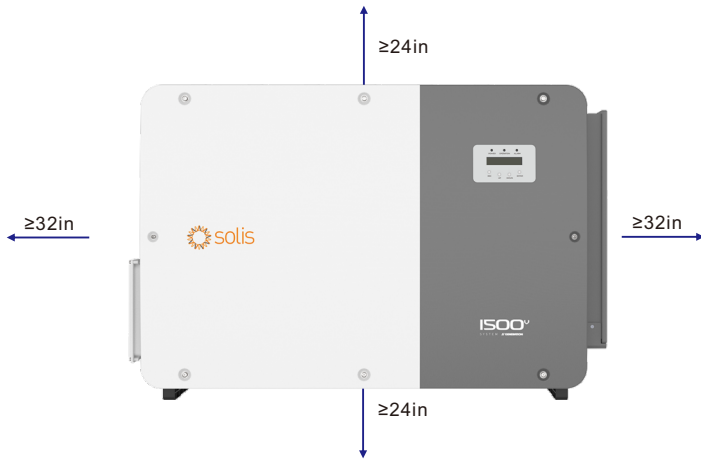

Figure 3.2 Clearance distances requirement for the inverter
- If multiple inverters are installed on site, a minimum clearance of 32 inches should be kept between each inverter and all other mounted equipment. The bottom of the inverter should be at least 32 inches above of the ground or floor (see Figure 3.2 and 3.3).